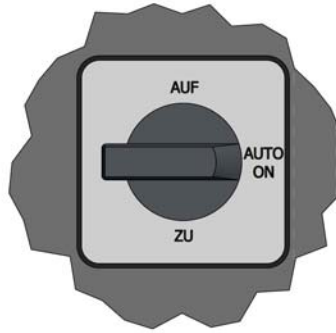

Figure 3-1, EHS Switched to 'Auto On'
- 3.2 Turn the EHS switch to 'AUTO ON' (both switches if EHS02) and check that the automatic controller is controlling the curtain correctly, Figure 3-1.